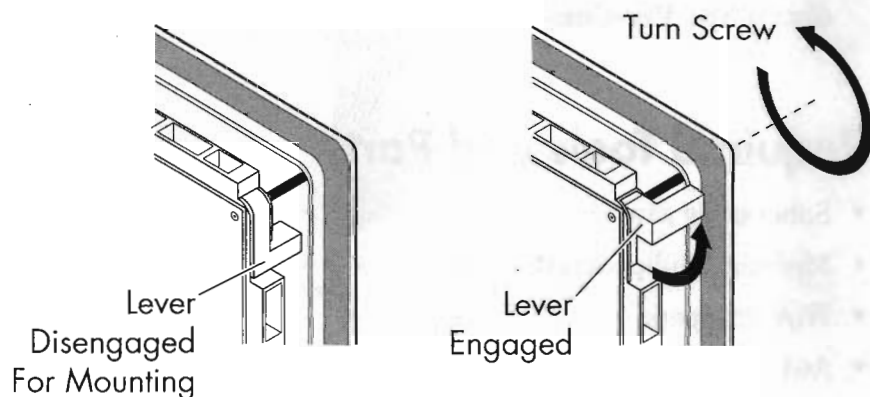
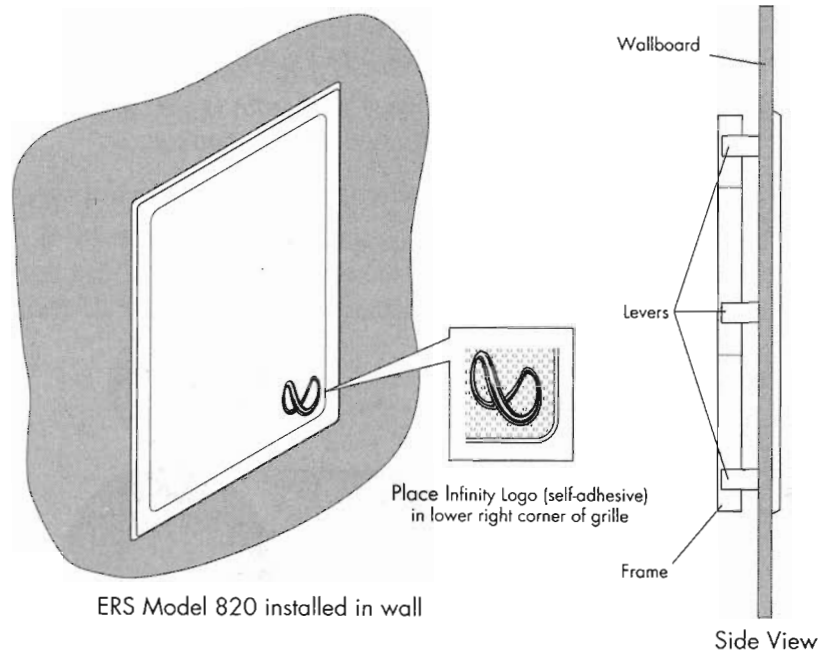

Figure 2. Unique lever system of the ERS Series, shown in the mounting and engaged positions.
Figure 4. An installed Infinity ERS 820 speaker. The levers are engaged to sandwich the speaker frame to the wallboard.
ERS Series Speakers use a unique built-in mounting system that automatically engages when you start fastening the embedded Phillips screws, as shown in Figure 2.
5. Before mounting the speakers, make sure the levers are in the mounting position (see Figure 2 on page 4). One at a time, place each speaker and cable into its respective cavity and tighten all screws 4 complete turns—this sets the levers in position. Then go back and tighten all screws using a hand screwdriver (power driver not recommended), as shown in Figure 4 on page 6.
- Model 520 or 420:** Place a foam grille insert behind each grille (for appearance, if desired). Align and gently press the edges of each grille into the slots of the matching speaker frame. Place an Infinity Logo (self-adhesive) on each grille (see Figure 4 above).
- When finished, place a foam grille insert behind each grille (for appearance, if desired). Gently insert the grilles into the slots on the speaker frames. Place an Infinity Logo (self-adhesive) on each grille (see Figure 4 on page 6).